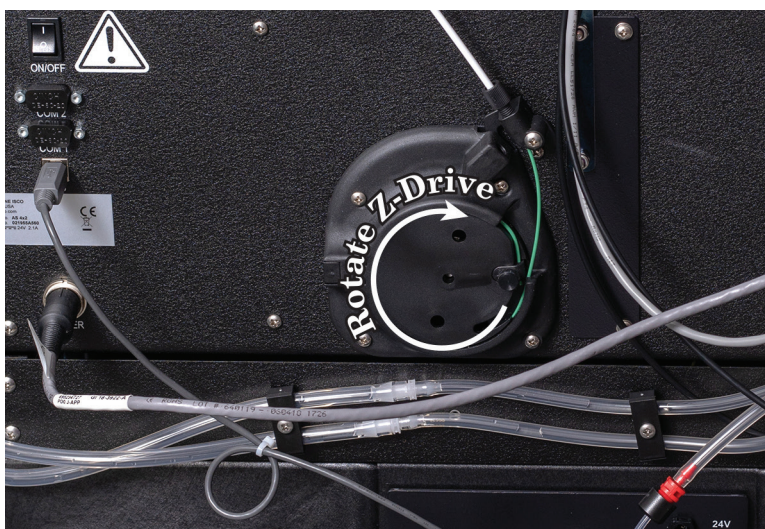

Figure 2-18 Z-Drive rotation
5. Rotate the Z-Drive rotor back and forth to ensure that the Z-Drive moved up and down freely (Figure 2-18).